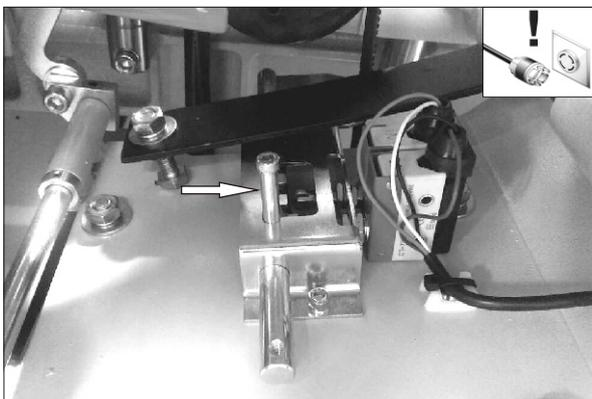

Fig. 3-5-3
6. Push the rotation speed switching rod to required position (as the position shown in Fig. 3-5-3).